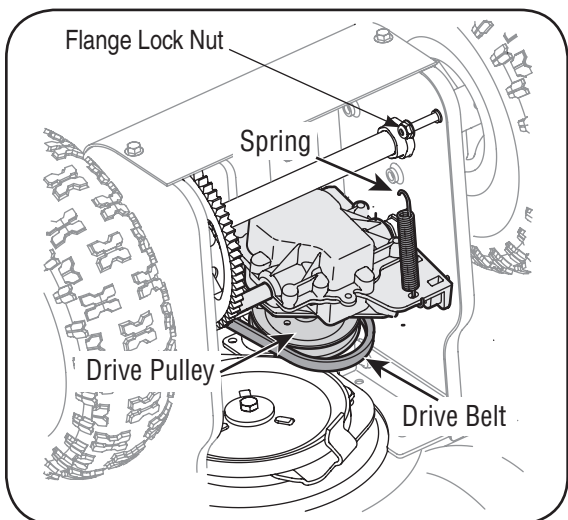

Figure 13
2. Remove the spring that connects the transmission to a bolt on the engine frame. See Figure 13.